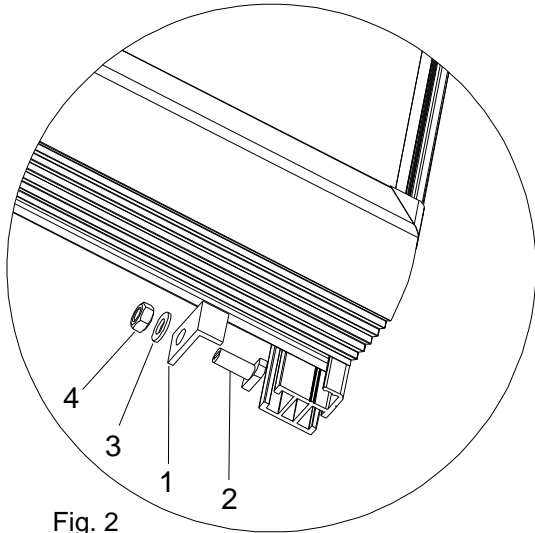

Fig. 2
2. Before inserting the collectors into the supporting profile the spacer 20 mm of the basic set has to be installed at the bottom corner (fig. 2).